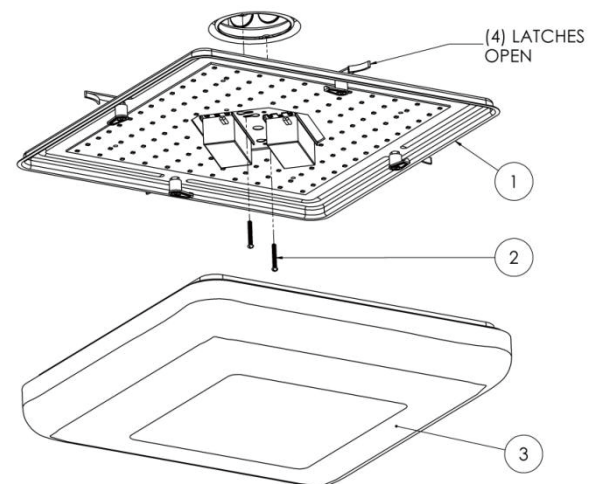

Figure 1
- Secure ceiling pan, (1) to the junction box with two screws (2) (supplied).
- With the 4 latches open, (Figure 1), Place diffuser (3) into ceiling pan (1).